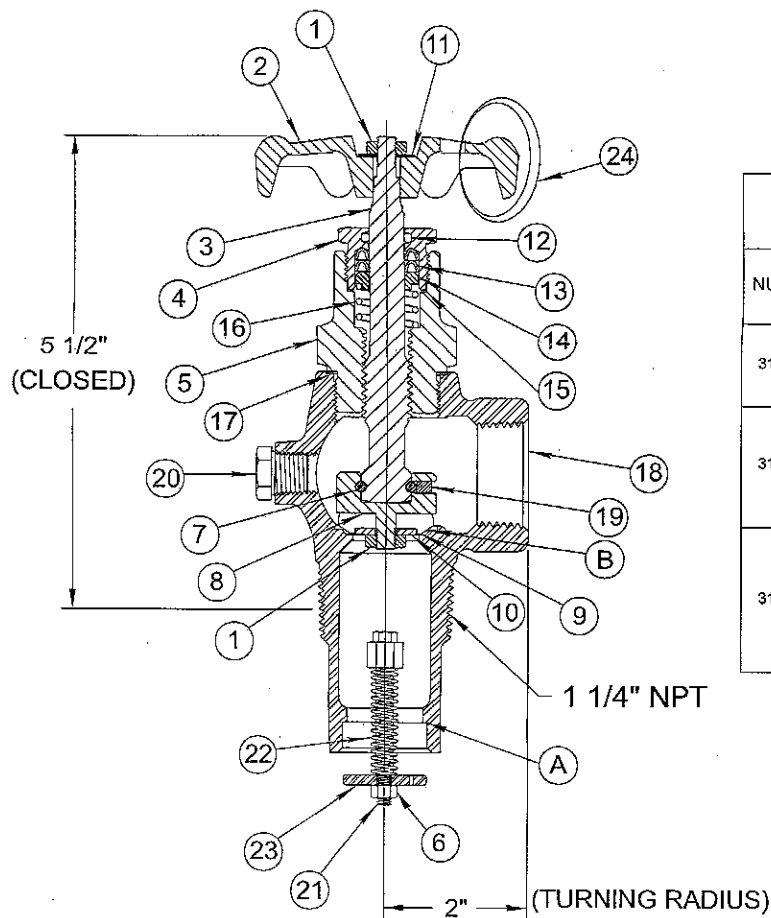

FIG. 1
**REFER TO FIGURE 1 FOR THE FOLLOWING STEPS:**
**REFER TO FIGURE 1 FOR THE FOLLOWING STEPS DEPENDING ON THE TYPE OF REPAIR REQUIRED:**
- Step 1: With valve secured in a bench vise, remove Bonnet (5) from the Body (18), which will expose the complete Bonnet and Stem Assembly. Note: It is important to inspect Disc Holder (8) rotation. If it does not rotate freely, do not use valve but consult your local dealer for instructions. Remove old Gasket (17).
- Step 2: Secure Bonnet (5) in a bench vise and remove both Handwheel and Disc Nuts (1).
- Step 3: Remove Disc Washer (10), Disc (9), Lock Washer (11), and Handwheel (2).
- Step 4: Remove Packing Nut (4), Chevron Packing (13), Male Adapter (14), and Packing Spring (16) over the end of Stem (3).
- Step 5: Rotate Stem (3) clockwise (CW) using Handwheel (2) if necessary, until stem is disengaged from Bonnet (5). Remove old Gasket (15).
- Step 6: Before reassembly, clean and inspect the valve seat at (B). Clean all metal components with solvent and wipe or blow dry with air.
- Step 1: Install Disc (9), Disc Washer (10), and Disc Nut (1) to Disc Holder (8). Secure Disc Nut (1) to threads of Disc Holder (8) with center punch mark at thread interface.
- Step 2: Lubricate threads of stem with a good quality grease and install Stem (3) into Bonnet (5) until Disc Holder (9) rests against bottom of bonnet.
- Step 3: With the bonnet and stem assembly secured in a bench vise install Gasket (15) and Packing Spring (16).
- Step 4: Replace O-ring (12) in groove of Packing Nut (4).
- Step 5: Install Chevron Packing (13) and Male Adapter (14) into Packing Nut (4).
- Step 6: Lubricate exposed surface of Stem (3) with John Crane Style 279A Packing Lubricant or equal.
- Step 7: Place Packing Nut (4) with packing in place over Stem (3) and engage bonnet threads in Bonnet (5). Rotate Packing Nut (4) while making contact with bonnet threads. Tighten packing nut with torque wrench to 55 ft-lbs.
- Step 8: Secure Body (18) in vise. Place Body Gasket (17) over bonnet threads and lubricate threads with a good quality grease.
- Step 10: Install Handwheel (2), and tighten Handwheel Nut (1) on Stem (3).
REFER TO FIGURE 1 FOR THE FOLLOWING STEPS: